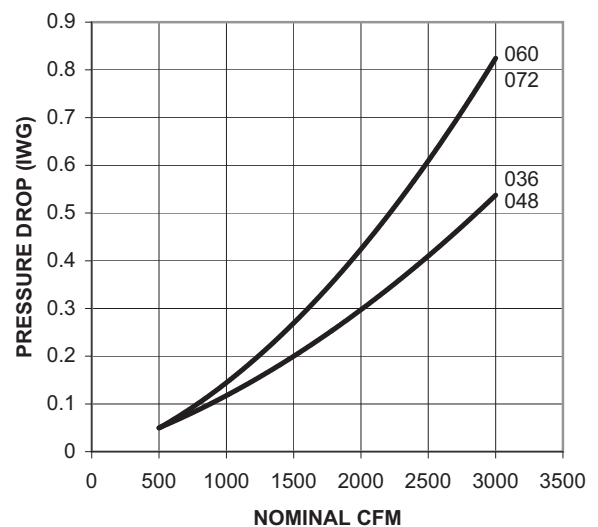

Figure 21: Pressure Drop Across Coil
4. Knowing the pressure drop across a dry coil, the actual CFM through the unit can be determined from the curve in Pressure Drop vs. Supply Air CFM (Figure 21).